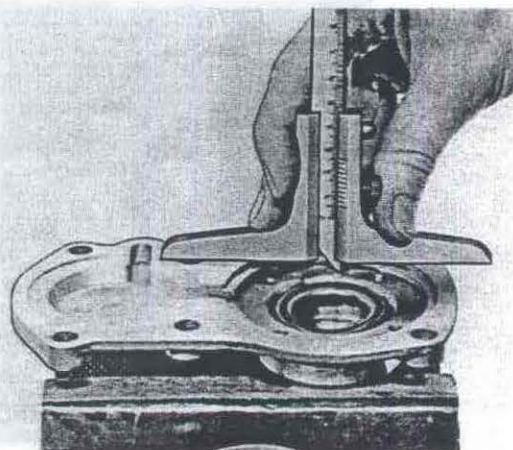

Fig. 43-125. Calculating clearance
30. Measure the distance from the contact face on the cover to the recesses for the outer races for the bearings, Fig. 43-125. The difference between the measurements obtained may be  $\pm 0.05$  mm (0.002") for the input shaft and from 0 to +0.1 mm (0.0039") on the countershaft.